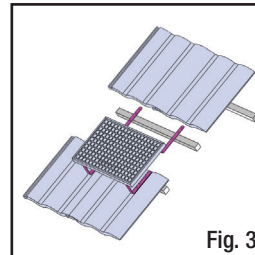

Fig. 3
3. Slide roof tiles up (remove if necessary) to install panel. Place panel in position Fig. 3.